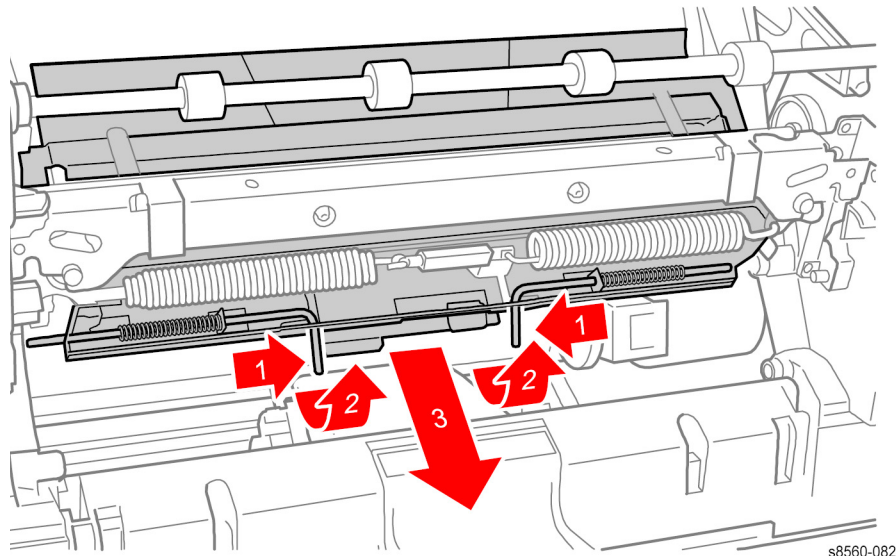

Figure 2 Removing the Preheater
5. Slide the latches in and forward to release the Preheater as shown in Figure 2.